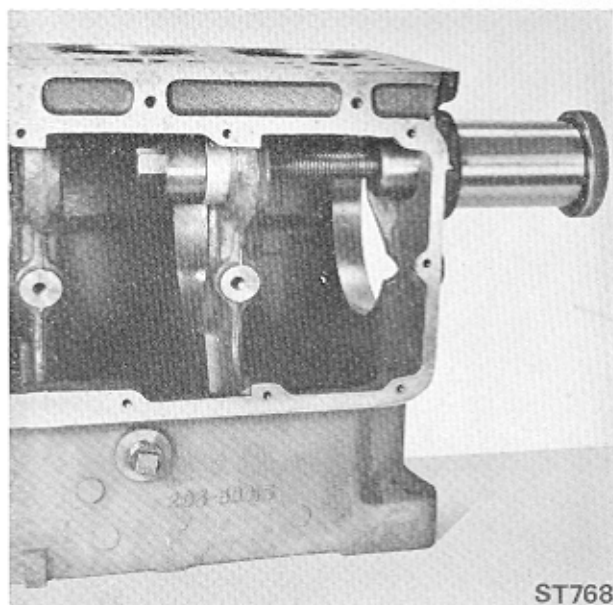

Fig. 138. Fitting Centre Bush—Flywheel End
- Place ring (4) over plug (1). Fit new plain bush on to plug.
- Fit bolt (8) through plate (7) and insert bolt through centre bush bore nearest flywheel end. Ensure plate is centralised and secured square to crankcase dividing wall.
- Tighten bolt until ring (4) just touches outside of crankcase. DO NOT OVERTIGHTEN.
**Fitting Centre Bushes (Figs. 138 and 139)**
- (a) Fit plug (1) from outside of crankcase, into outer bush. At flywheel end only, fit ring (4) over outer bush to maintain projection.
- (b) Place washer (5) on to bolt (8); fit new centre bush over bolt.